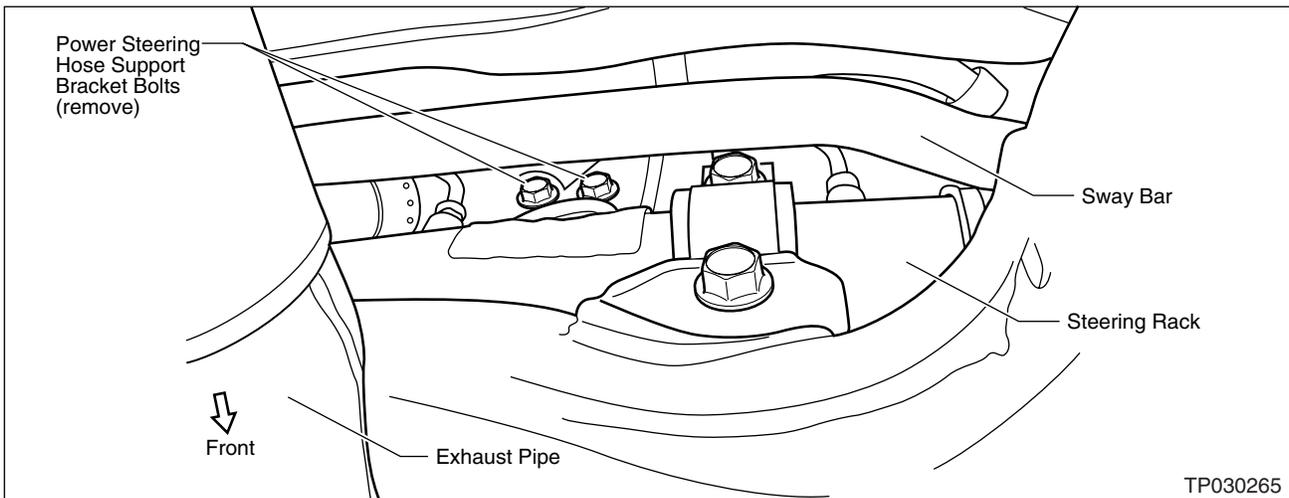

Figure H5
- Make sure to remove the Power Steering Hose Support Bracket Bolts before engine removal (see Figure H5).